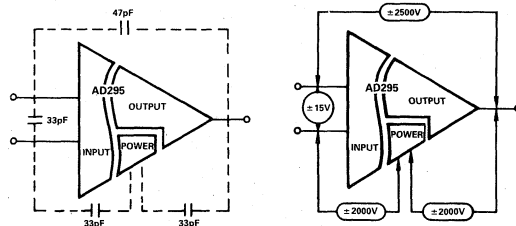

Figure 3. Interelectrode Capacitance and Terminal Ratings
**Capacitance:** Interelectrode terminal capacitance arises from stray coupling capacitance effects between the input terminals and signal output terminals. Each are shunted by leakage resistance values exceeding 50GΩ. Figure 3 illustrates the AD295's capacitance between terminals.
**Terminal Ratings:** CMV performance is given in both continuous ac, or dc peak ratings. Continuous peak ratings apply from dc up to the normal full power response frequency. Figure 3 illustrates the AD295's ratings between terminals. Note that for the ±2500V rating between the input and output terminals to apply, the AD295 must be used in a three port configuration. If the output common is tied to the power common, the input to output CMV rating is ±2000V.